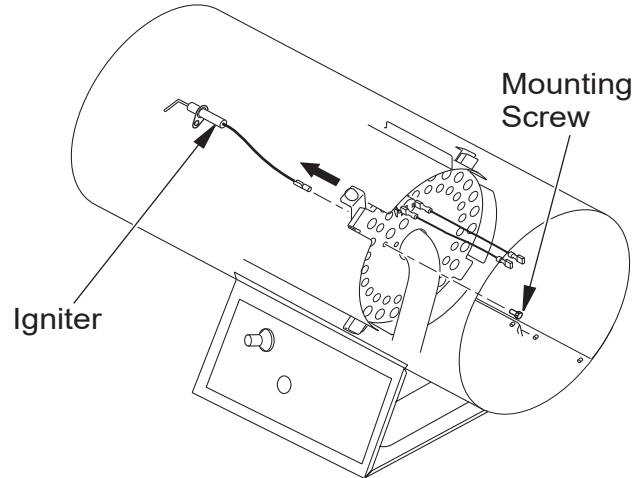

Figure 11 - Removing Igniter Mounting Screw and Igniter
3. Use a nut-driver or standard screwdriver to remove the igniter mounting screw from the rear head (see Figure 11).
No spark at igniter. To test for spark, follow step 8 under Igniter , page 9. If you see spark at igniter, have heater serviced by qualified service person. If no spark seen: A) Loose or disconnected igniter wire B) Wrong spark gap	A) Check igniter wire. Tighten or reattach loose igniter wire. See Figure 11, page 9 for igniter wire location B) Set gap between igniter electrode and target plate to 0.17" (0.43 cm)